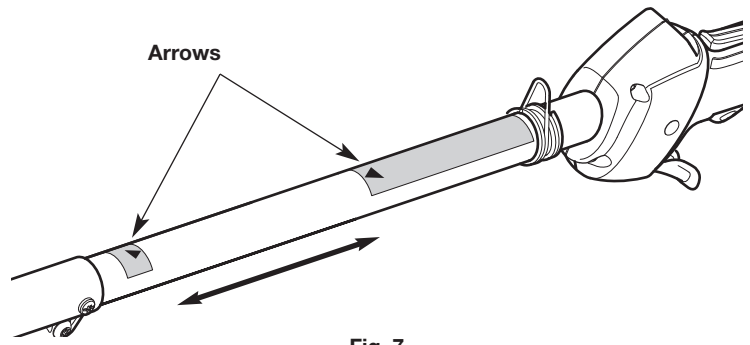
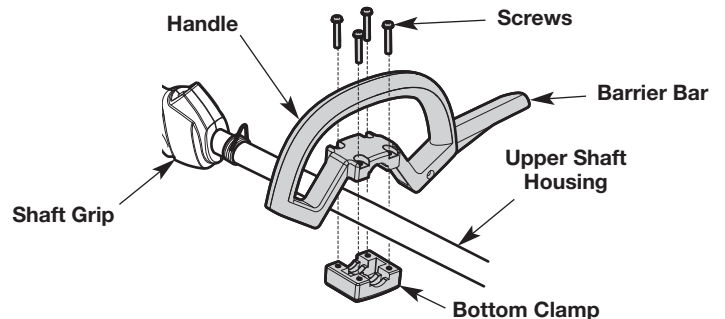

Fig. 7
Fig. 8
1. Use a large flat-head screwdriver or a T-25 Torx screwdriver to remove the four (4) screws and bottom clamp from the handle (Fig. 8).
2. Place the handle onto the top of the upper shaft housing (Fig. 8). Make sure the barrier bar is on the left (Fig. 8) when holding the unit in the operating position (Fig. 16).
4. Insert the four (4) screws through the handle and into the bottom clamp.
6. Hold the unit in the operating position (Fig. 16). Move the handle up or down the upper shaft housing to a comfortable location. Make sure the handle is positioned between the two arrows (Fig. 7).
1. Use a large flat-head screwdriver or a T-25 Torx screwdriver to loosen the 4 screws in the handle (Fig. 8).
2. Hold the unit in the operating position (Fig. 16). Move the handle up or down the upper shaft housing to a comfortable location. Make sure the handle is positioned between the two arrows (Fig. 7).